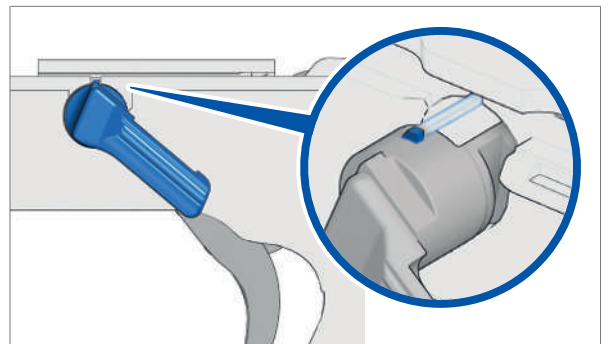

Fig. 63: Disassembly position
- the disassembly lever is in the disassembly position (*Fig. 63*).
3. Turn disassembly lever to disassembly position and remove it (*Fig. 63*).
5. Put disassembly lever into disassembly position and insert it into the frame (*Fig. 63*).